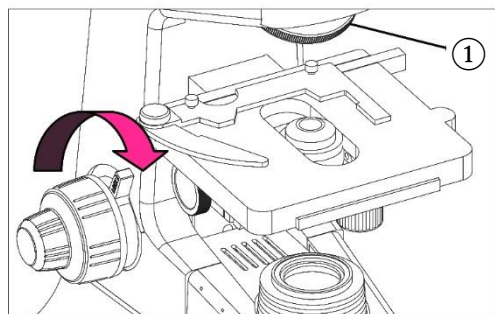
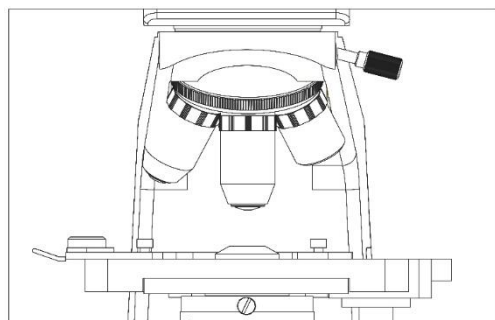

Fig. 6
Fig. 7
3.2.4. Installing objectives (Fig. 6, Fig. 7)